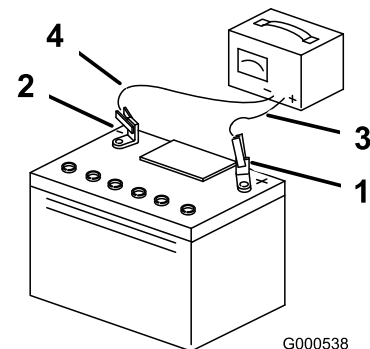

Figure 31
3. When the battery is fully charged, unplug the charger from the electrical outlet, then disconnect the charger leads from the battery posts (Figure 31).